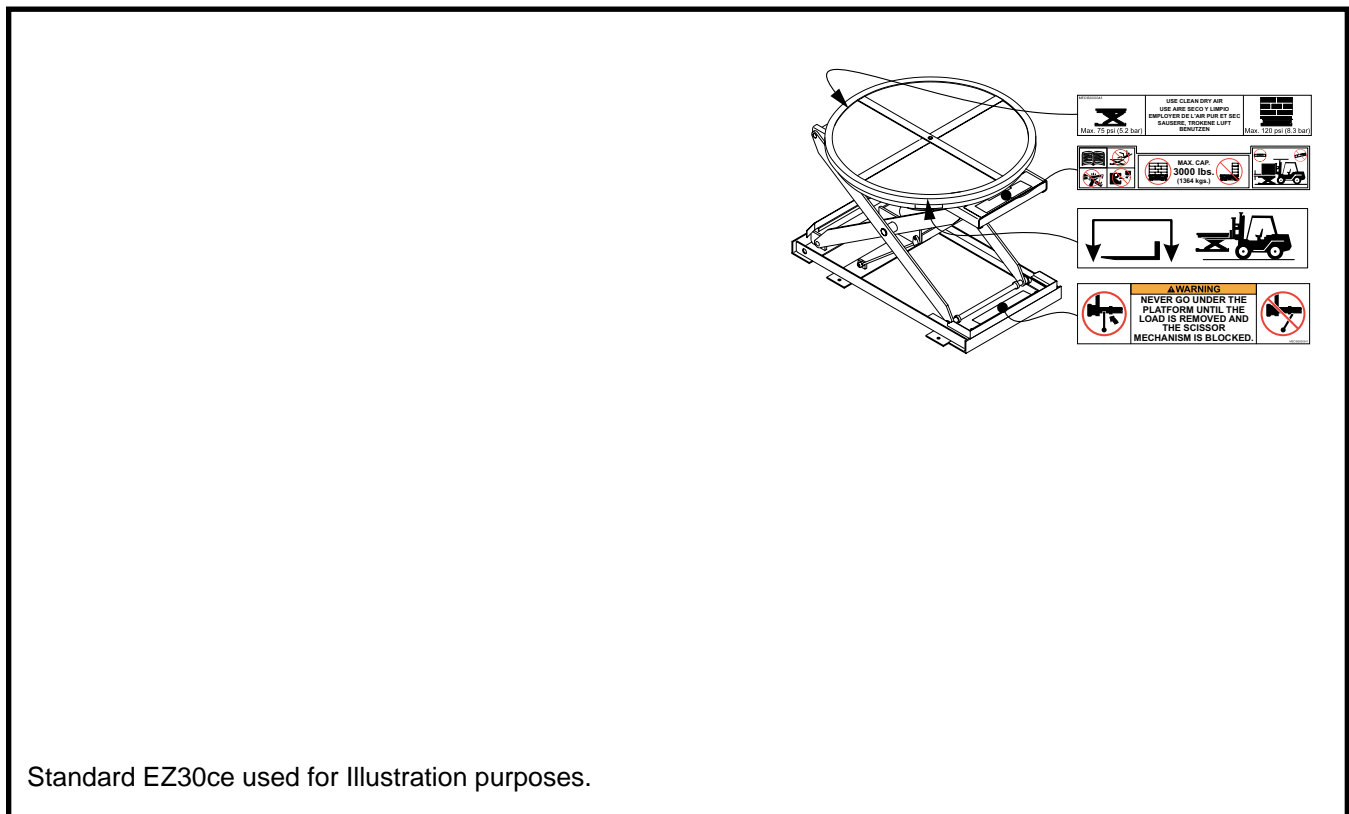

Figure 1 - Safety Warning Label Locations
11. **ALWAYS** ensure all safety warning labels are in place and legible. If not, remove the EZ Loader from service and replace the required labels. Refer to Figure 1 for label descriptions and locations.